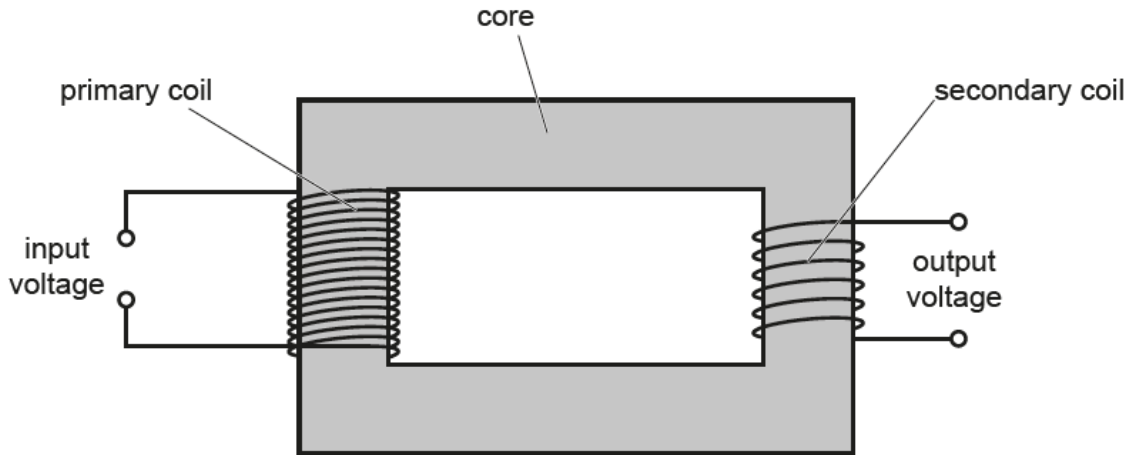

Fig. 8.1
Fig. 8.1 shows a step-down transformer used to operate an electric bell.
- (d) State one change that can be made to the transformer shown in Fig. 8.1 so that it can be used as a step-up transformer.